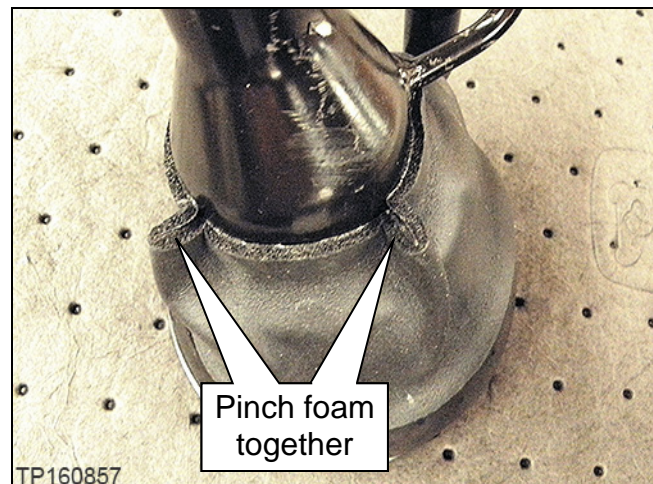

Figure 6
6. Close the excess foam by pinching together, and then press the remaining foam onto the fuel filler pipe (see Figure 6).